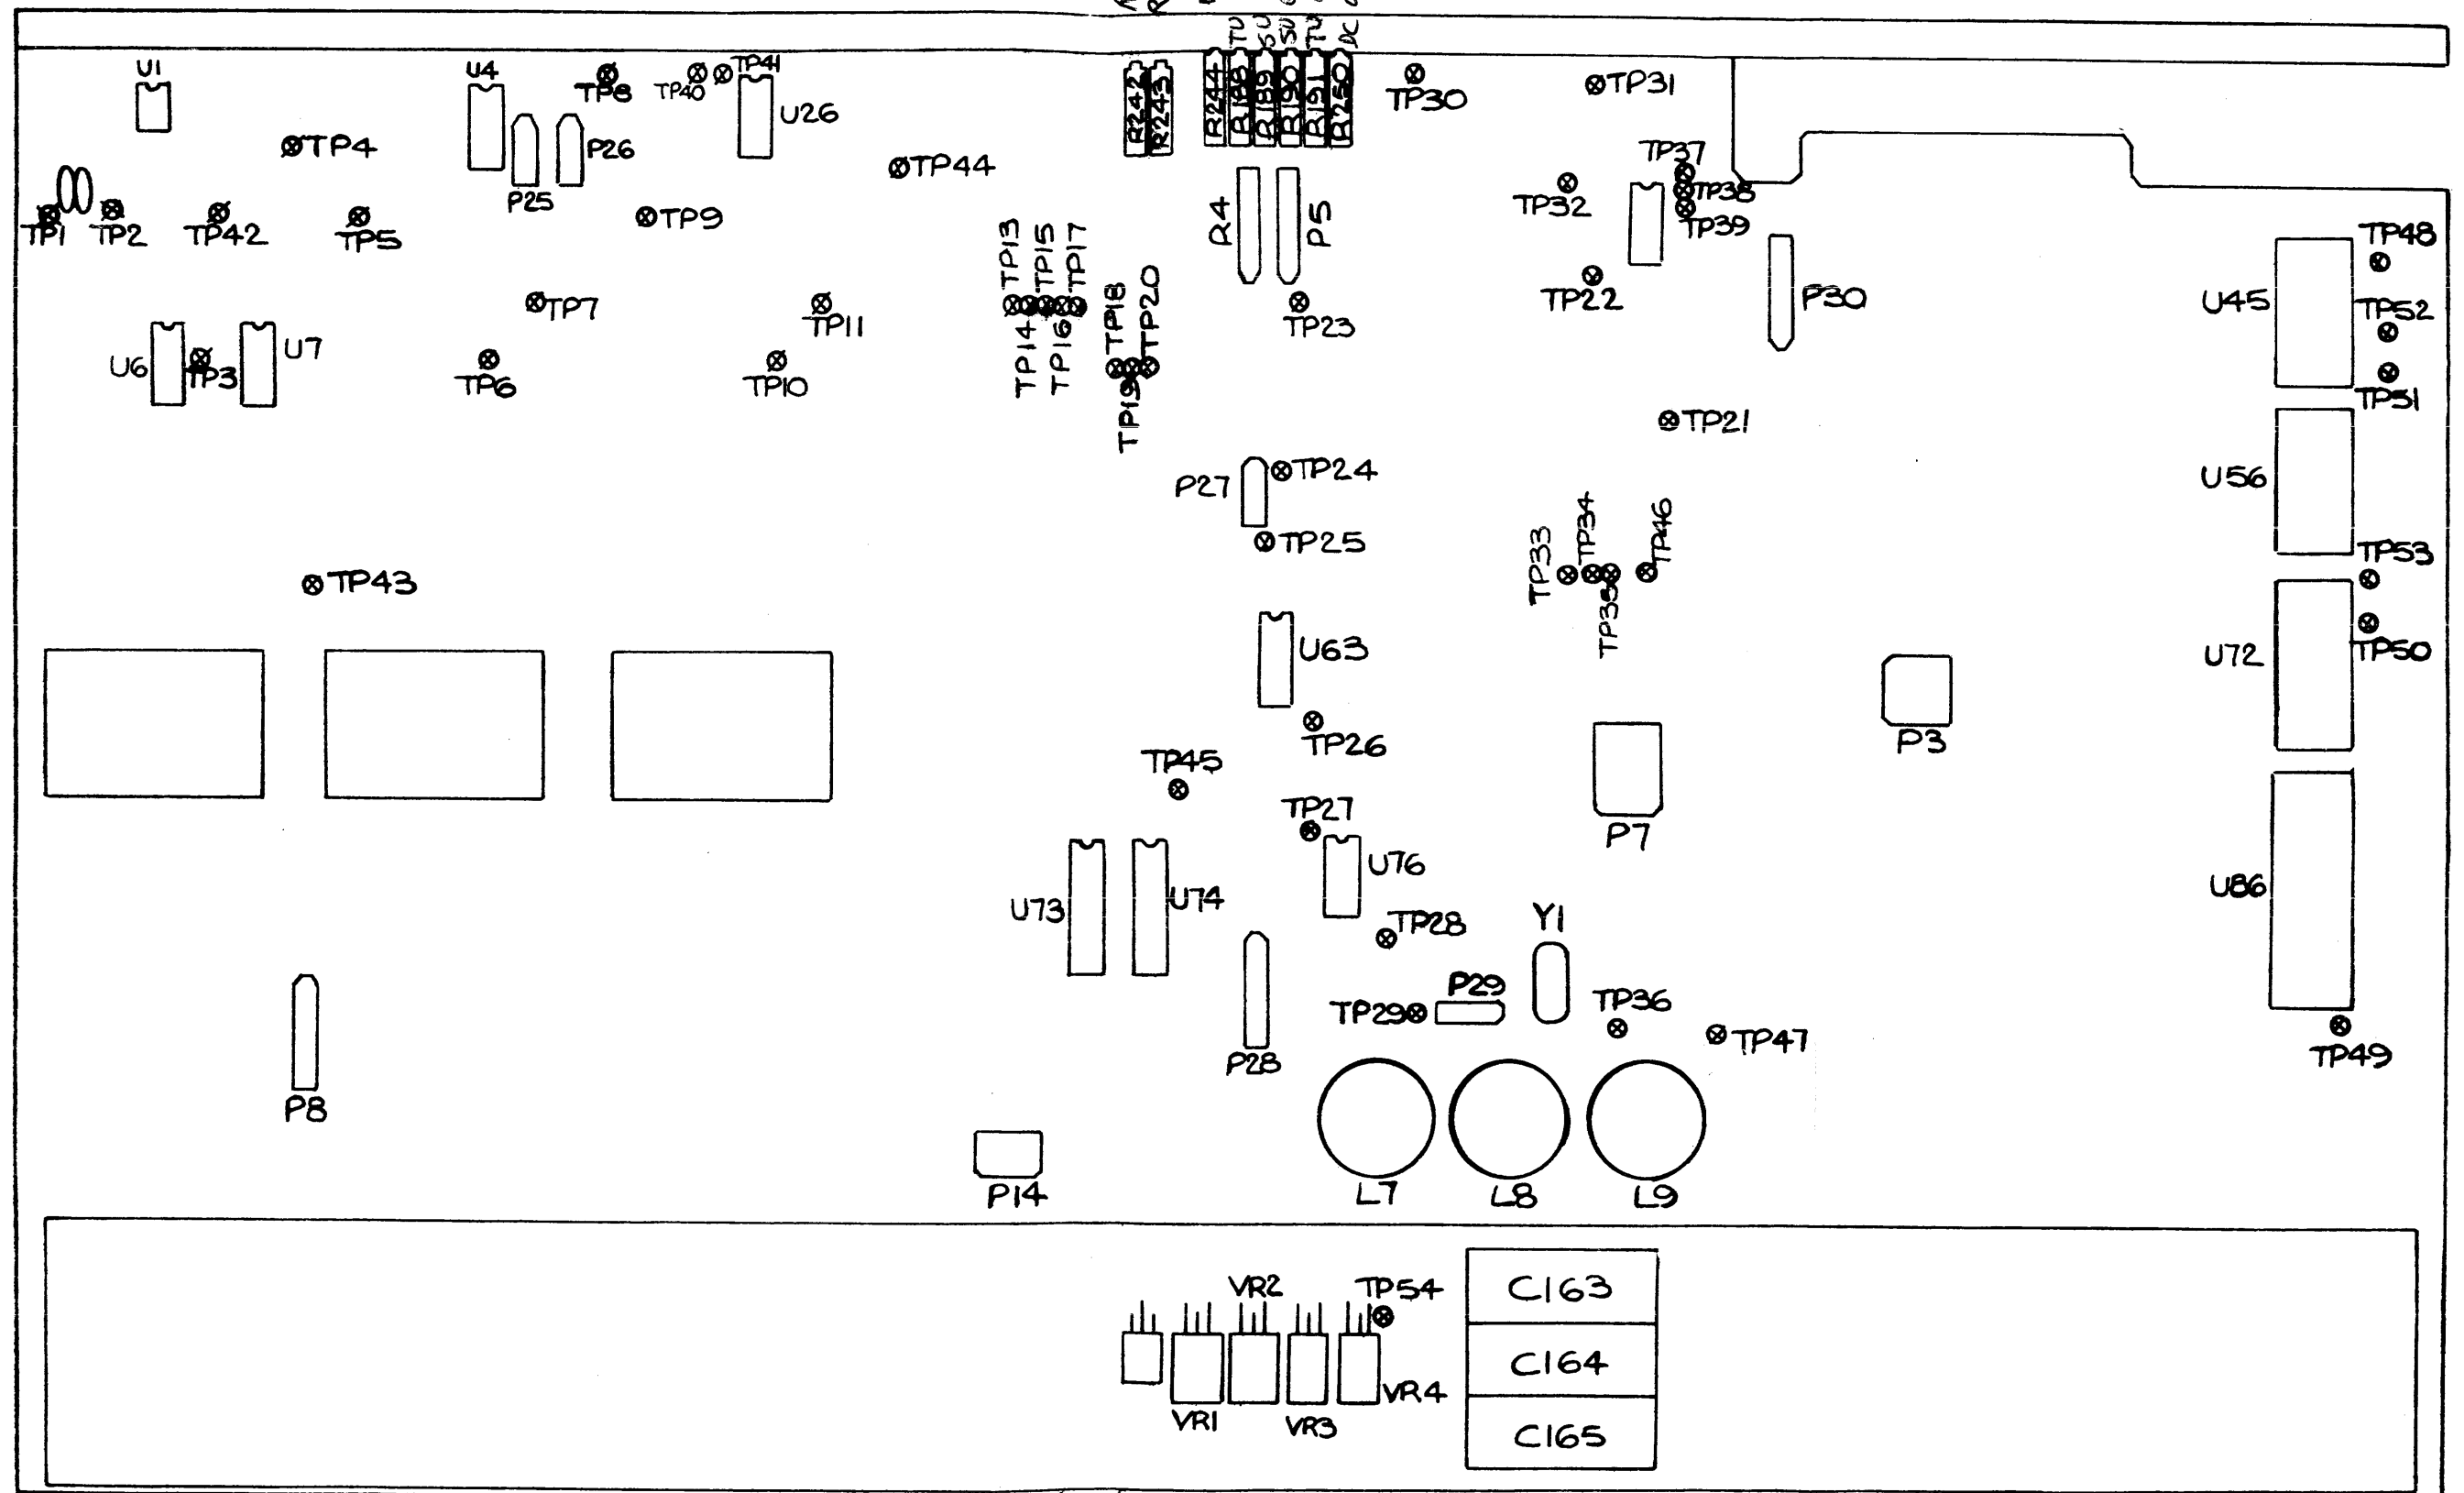

Figure 5-10. Control/Servo PWB Test Point Chart
5-39. REGULATED POWER SUPPLY ADJUSTMENTS. The potentiometer used for this adjustment is located on the power regulator portion of the control/servo PWB. Test point locations are shown in Figure 5-10. Referring to Table 5-3, for each of the power supplies listed measure voltage across the test points shown.
5-41. DC OFFSET ADJUSTMENT. Connect a digital voltmeter to pins 1 and 2 of connector P8, and adjust potentiometer R250, on the control/servo PWB (Figure 5-10), for 0(±0.05) Vdc.
- a. Monitor voltage at TP27, located on capstan servo portion of control/servo board. (See Figure 5-10 for location of test points.)